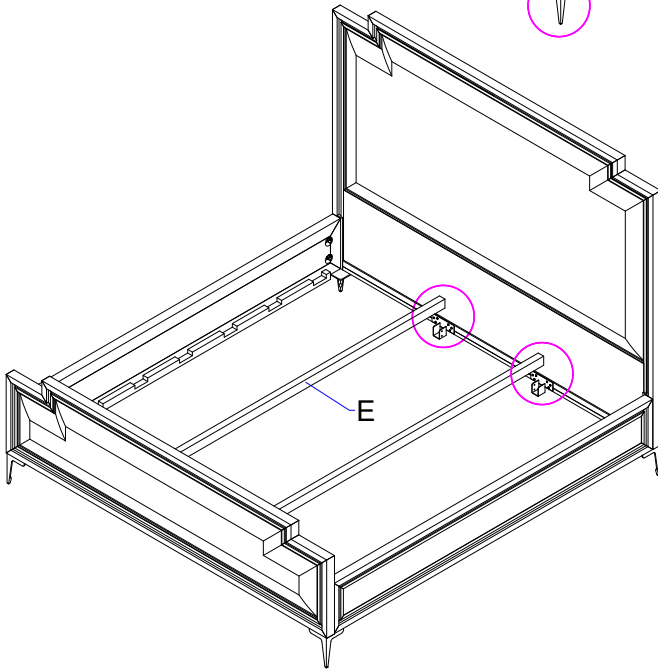

FIGURE 04
On inside face of both headboard (A) and footboard (C) are pre-installed metal brackets for the support slat (E). Set the support slat (E) on the metal brackets, as illustrated in FIGURE 04.